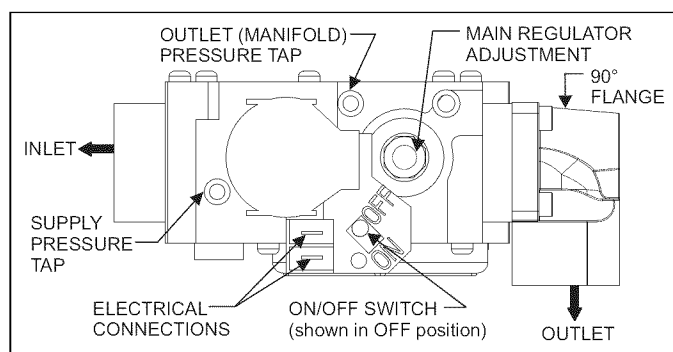

FIGURE 4: Gas Valve
5. Move gas control switch to the "OFF" position. Do not force. See Figure 4.
6. Wait five (5) minutes to clear out any gas. If you then smell gas, STOP! Follow Step 2 (refer to Safety Information on Page 4). If you don't smell gas, go to next step.
7. Move gas control switch to the "ON" position. Do not force. See Figure 4.
11. After three (3) trials for ignition, if the appliance will not operate follow the instructions, "TO TURN OFF THE APPLIANCE" and call your service technician or gas supplier.
4. Move gas control switch to the "OFF" position. See Figure 4.